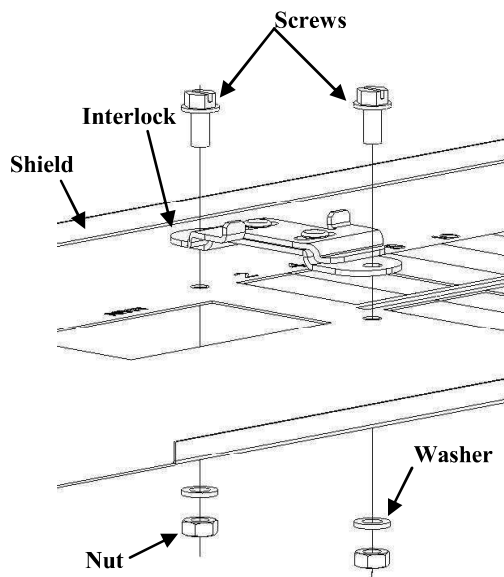

Fig 3
2. Mount the interlock using the 2 screws, washers, and nuts provided. Tighten to 45lb-in(5 Nm). See figure 3.